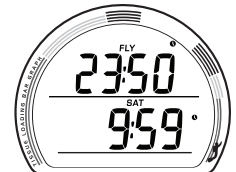

Fig. 12 - FLY/DESAT
**Fly/Desat**, information includes (Fig. 12):